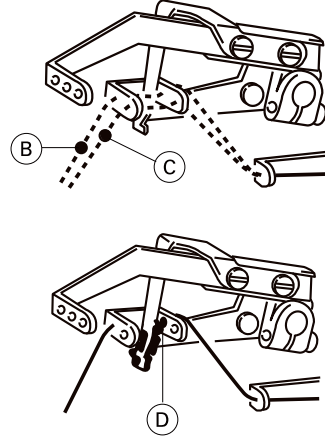

Figure 16
- Ⓑ 如果装饰线太松时, 请用线B. 如果还是太松, 然后换用线C, 根据图16所示。如果装饰线太紧时, 请用D。
- If the top cover thread is too loose thread the guide by referring to line 'B'. If the top cover thread is still too loose, then thread the guide by referring to line 'C', according to Figure 16.
- Ⓒ 穿伸缩大的线时, 调整如图16所示左(a)。穿伸缩小的线时, 调整如图16所示右(b)。